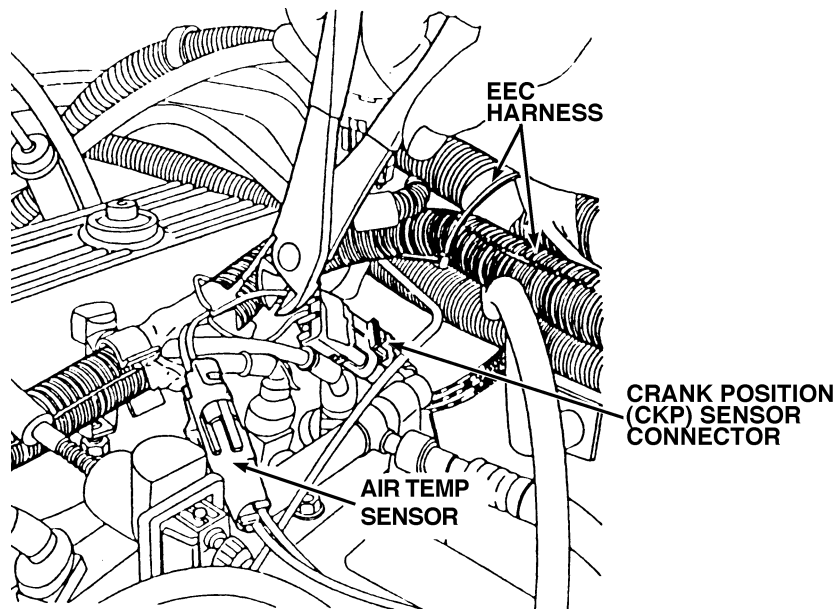

Figure 1.
3. Locate the crank position (CKP) sensor connector (Figure 1). Remove the connector from the EEC harness by cutting the two CKP sensor wires close to the connector. These wires should be white with black tracer, and violet with white tracer.